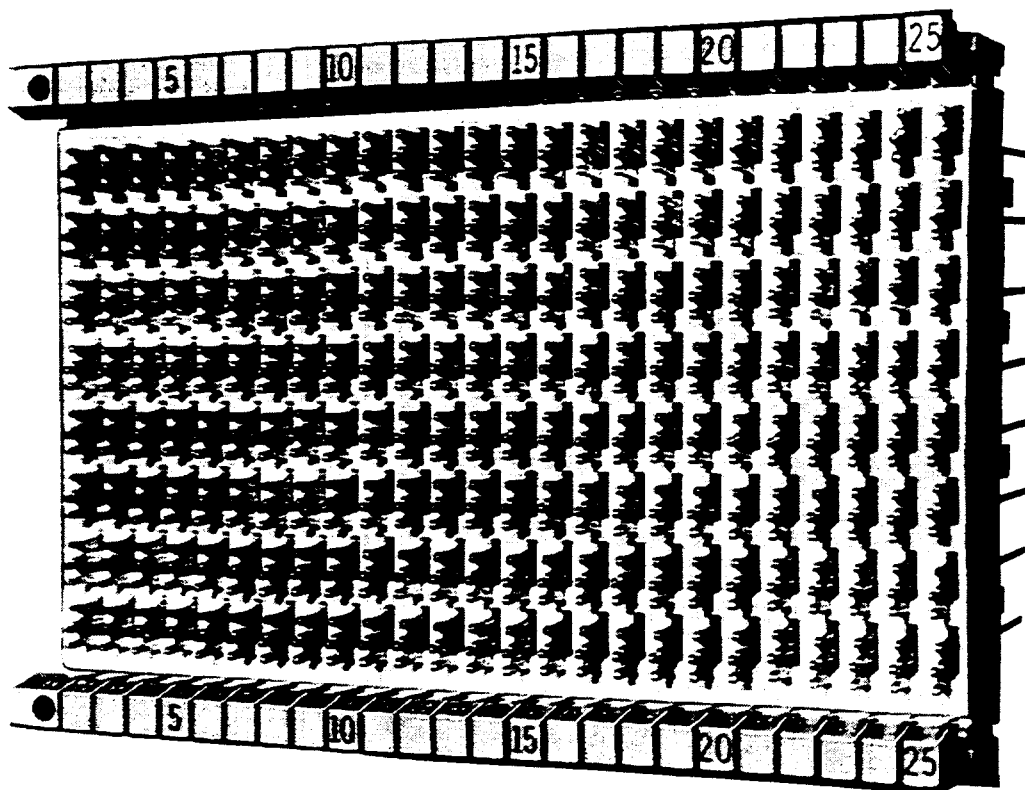
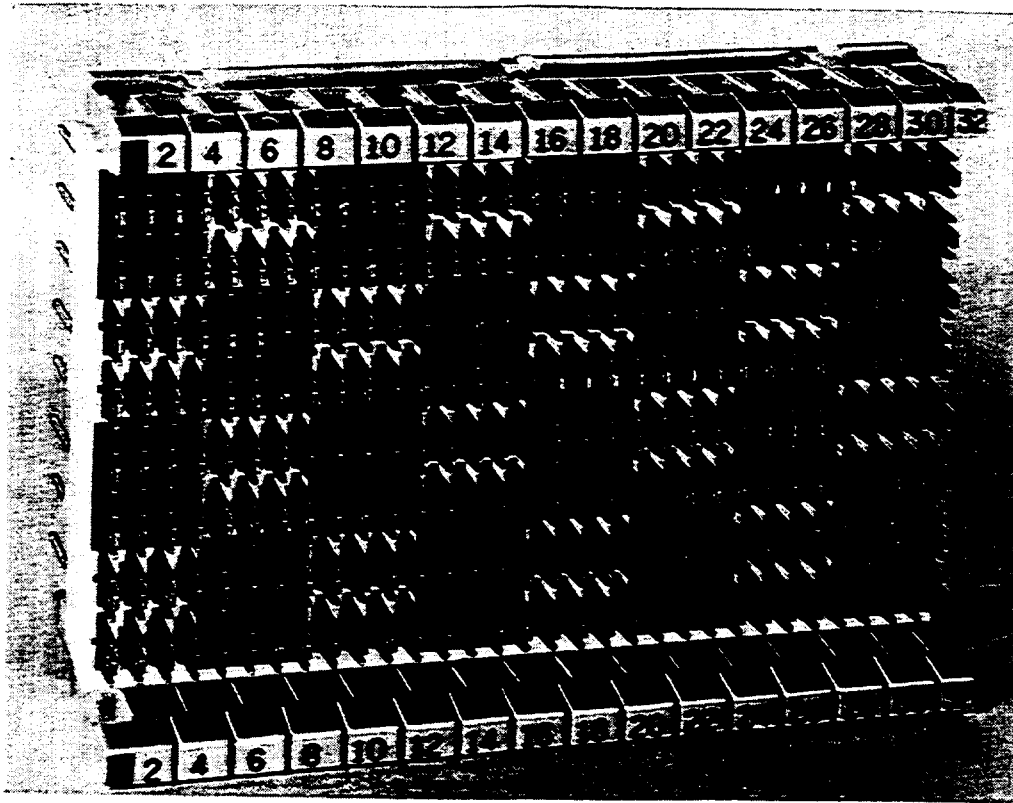

Figure 1—78-Type Connecting Block — 100-Pair Terminal Arrangement
Figure 2—112-Type Connecting Block — 128-Pair Terminal Arrangement
**2.01** The 78-type connecting blocks (Figure 1) are used on earlier *COSMIC* I and II distributing frames that were installed prior to the availability of the 112-type connecting blocks and the 112-type connecting blocks (Figure 2) are used on all *COSMIC* distributing frames. *COSMIC* I and II distributing frames can mount the high density 112H-Type connecting blocks only if the ED-6C142-30, G3 or G4 shelf mounting adapters are used.